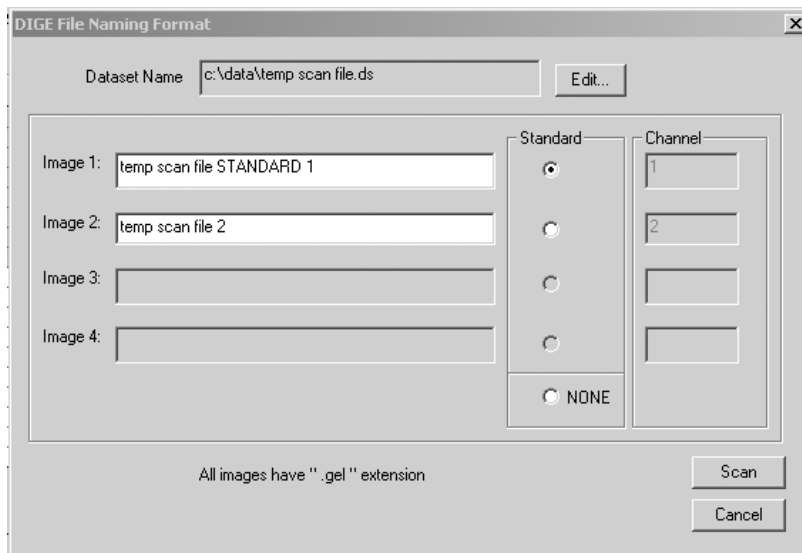

Fig 12-7. The DIGE File Naming Format window.
- 6 (Optional) If you want to change the dataset name or the individual file names, click the file name that you want to change and then click the **Edit Sample File Names** button. The DIGE File Naming Format window appears and displays the default names for each image of the multichannel image (fig 12-7).